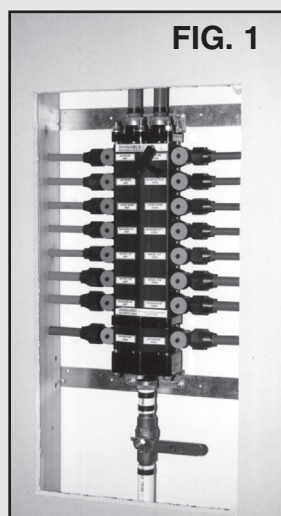

FIG. 1
2. At desired location, cut and remove section of dry wall (Fig. 1).